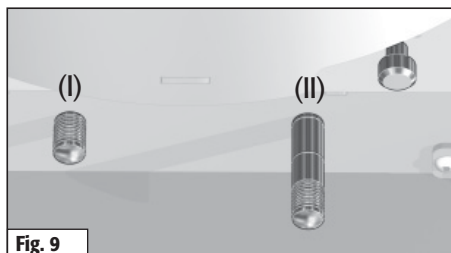

Fig. 9
Close primary air	Push in primary air slider (I) as far as it will go. (fig. 9)
Adjust secondary air.	Set secondary air slider (II) to position 2. (fig. 9)